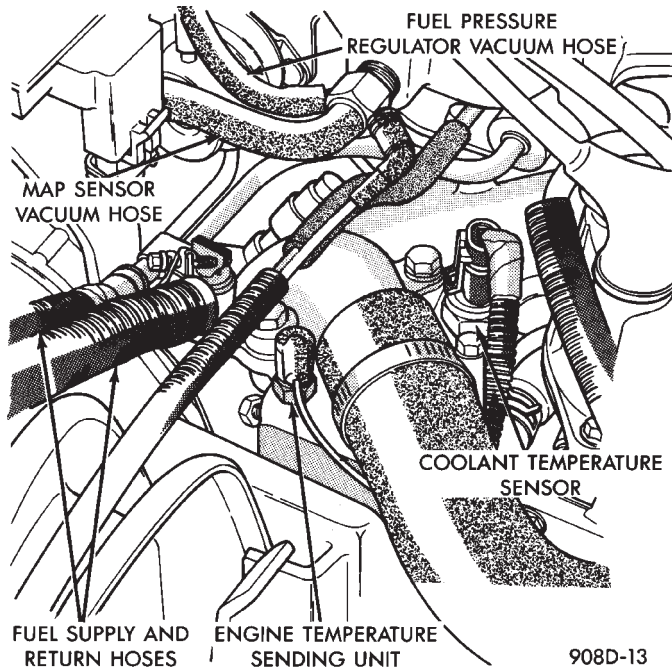

Fig. 8 Coolant Temperature Sensor and Vacuum Connections
(12) Verify the coolant temperature sensor connector is connected to the harness connector (Fig. 8).
(13) Check vacuum hose connection at fuel pressure regulator and intake plenum connector (Fig. 8).